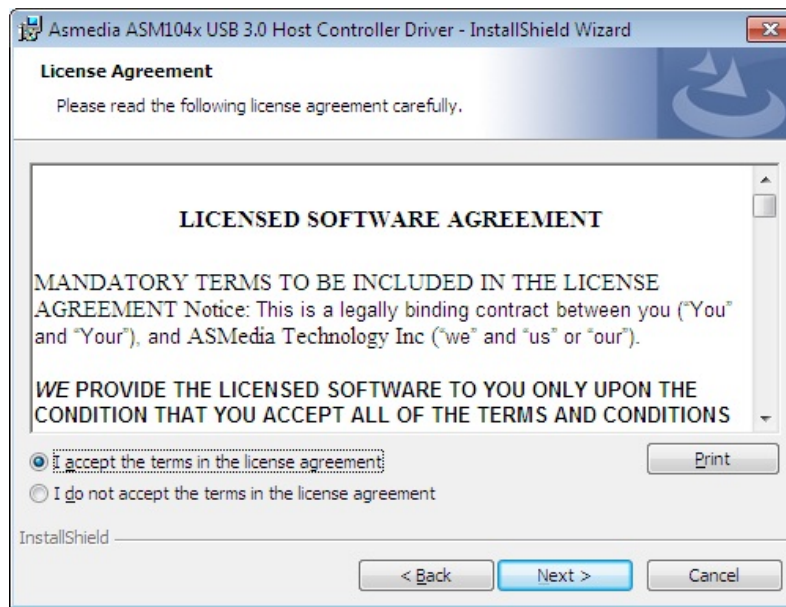

Figure 6-21: USB 3.0 Driver License Agreement
Step 6: The license agreement in **Figure 6-21** appears.